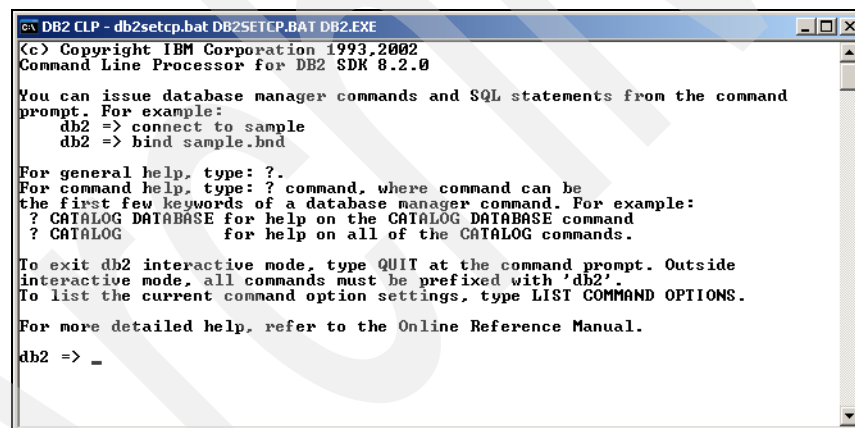

Figure 3-2 DB2 command line processor
3. A command line processor window appears as in Figure 3-2.